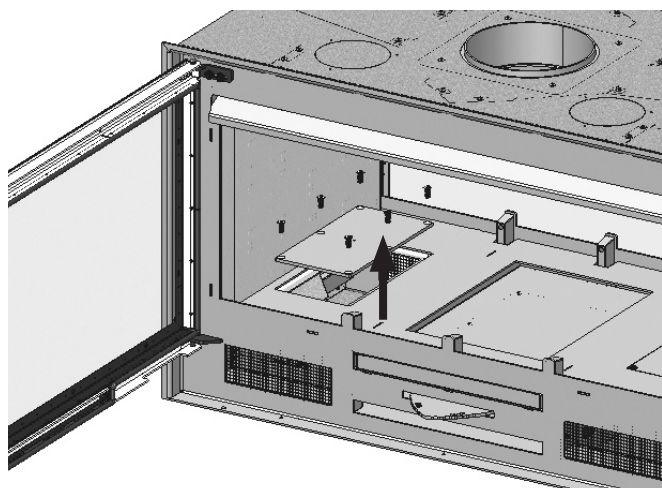

FIG. 10
2. Loosen the screws on the side covers, which give access to the fan assembly, located under the base. (Fig. 10)